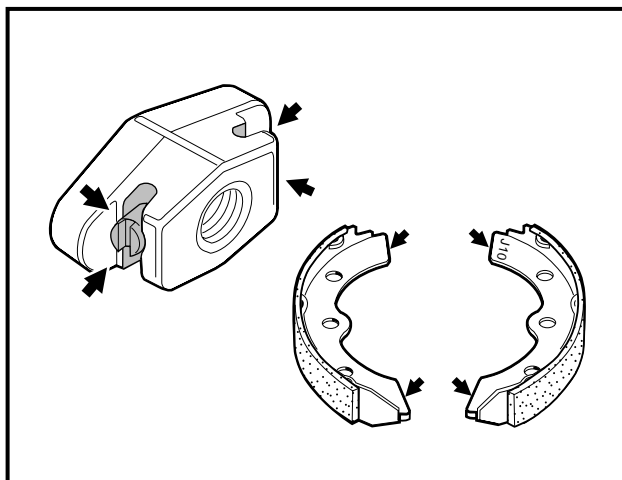

Figure 6-8 Grease Shoes
5. Use a small brush to carefully apply a liberal amount of white lithium NLGI #2 grease (Dow Corning BR2-Plus or equivalent) to each end of both brake shoes and into the slots in the brake shoe mounting block as shown (Figure 6-8, Page 6-4). See preceding WARNING.